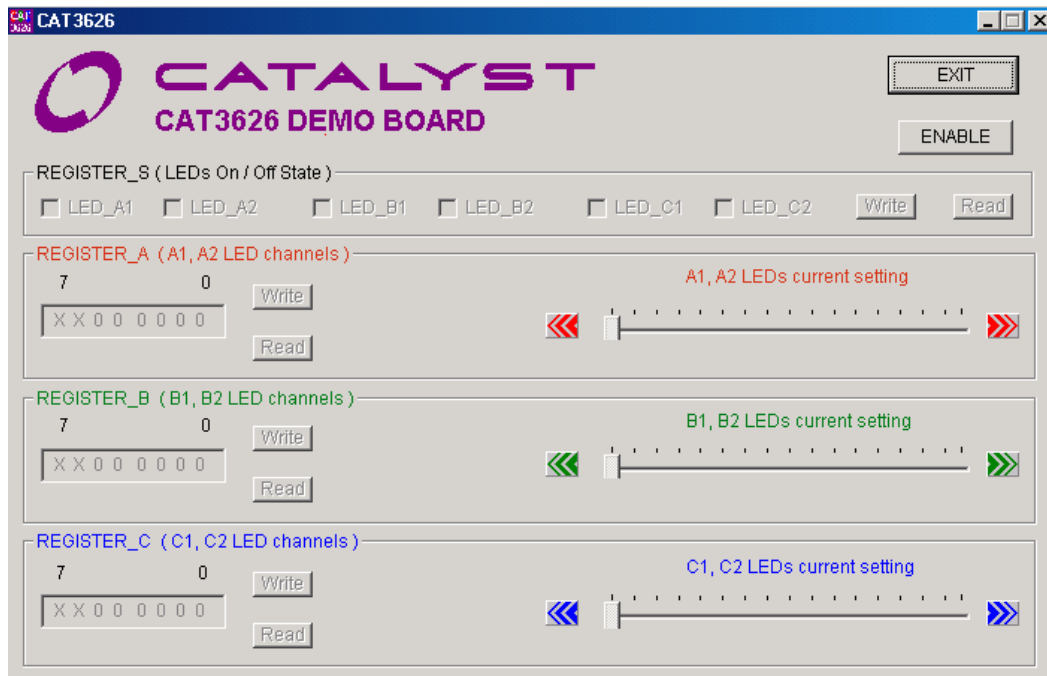

Figure 3. CAT3626DB1 Software Interface Window (start window)
- e) The CAT3626 Demo Board user interface window opens (Figure 3).